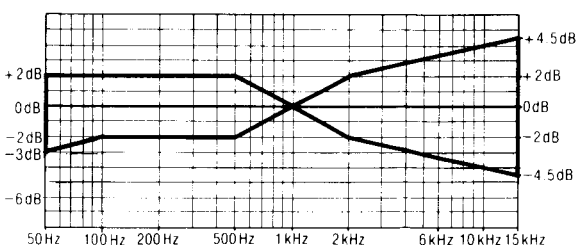

Fig. 17
8. Change test tape to CrO₂ reference blank test tape (QZZCRX), and record 1kHz, 50Hz, 100Hz, 200Hz, 500Hz, 4kHz, 8kHz, 10kHz and 15kHz signals. Then, playback the signals and check if the curve is within the limits shown in the overall frequency response chart for CrO₂ tapes (fig. 17).
9. Place UNIT into metal tape mode and change test tape to metal reference blank test tape (QZZCRZ), and record 1kHz, 50Hz, 100Hz, 200Hz, 500Hz, 4kHz, 8kHz, 10kHz, 12.5kHz and 15kHz signals. Then, playback the signals and check if the curve is within the limits shown in the overall frequency response chart for metal tapes (fig. 17).